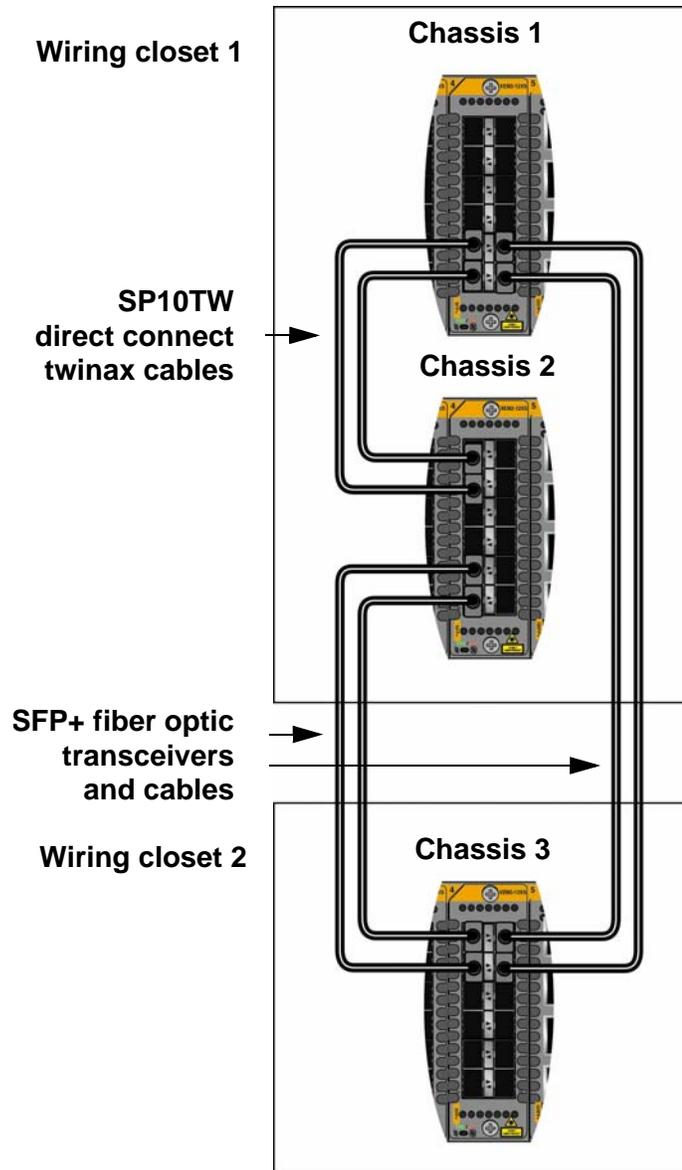

Figure 24. Unsupported Trunk with Both Direct Connect and Fiber Optic Cables on XEM2-12XT Line Cards
- ❑ The XEM2-12XS Line Card supports 10Gbps SP10TW direct connect twinax cables in addition to fiber optic transceivers. You can use direct connect cables for trunk links when switches are physically close together, such as in the same equipment rack or adjacent racks. However, you cannot build a trunk with both direct connect cables and fiber optic transceivers. A trunk can have either one or the other, but not both. The example trunk of XEM2-12XS Line Cards in Figure 24 is unsupported because it uses both types of cables.